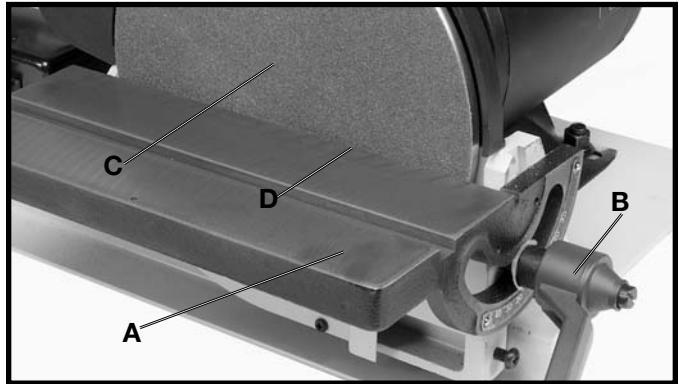

Fig. 28
The disc table (A) Fig. 28, can be tilted 45 degrees up or down, by loosening lock handle (B), tilting the table, and tightening lock handle (B). **NOTE:** The lock handle (B) is spring-loaded and can be repositioned by pulling out the handle (B) and repositioning it on the serrated locking stud located directly underneath the handle.
**⚠WARNING: TO AVOID TRAPPING THE WORK OR FINGERS BETWEEN THE TABLE AND SANDING DISC, THE SANDING DISC (C) SHOULD BE ADJUSTED SO IT IS A MAXIMUM OF 1/16 INCH FROM EDGE OF TABLE (D).** This can be accomplished by moving the sanding disc in or out on the motor shaft.